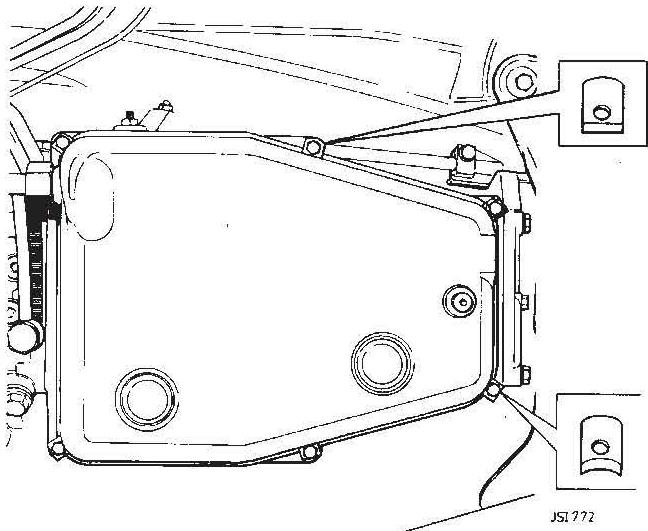

FIG 6
10. Align the oil sump to the transmission ensuring that the gasket does not move. Secure with the retaining clips located in the correct position (Fig 6) to a torque of 8 Nm.